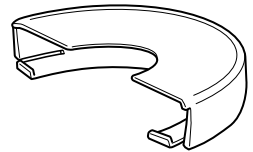

Fig. 1
- When using an abrasive cutting wheel, be sure to attach the wheel guard for cutting wheel (sold separately) over the standard-accessory wheel guard. (Fig. 1);